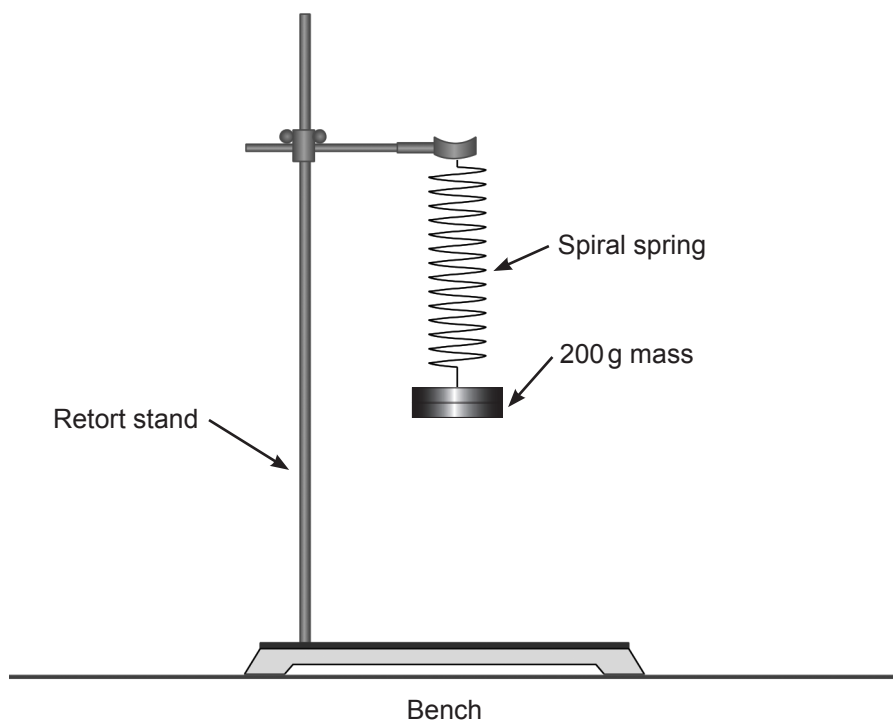

Fig. 3.1
- 3 In this experiment you will measure the period of oscillation of an extended loaded spiral spring when three different masses are attached to the spring. The apparatus is as shown in **Fig. 3.1**. The mass of 200 g has been attached to the spring.